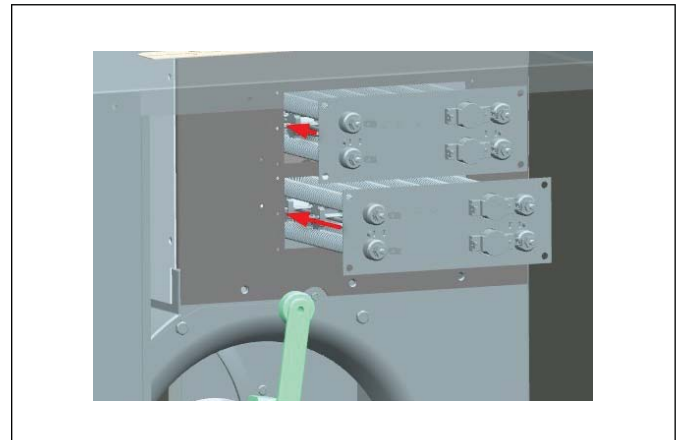

Figure 22 Electric Element Orientation
4. Align the heating element to be inserted, make sure the coils are facing upwards and heater overloads are directly in-line with discharge air stream. (figure 22).